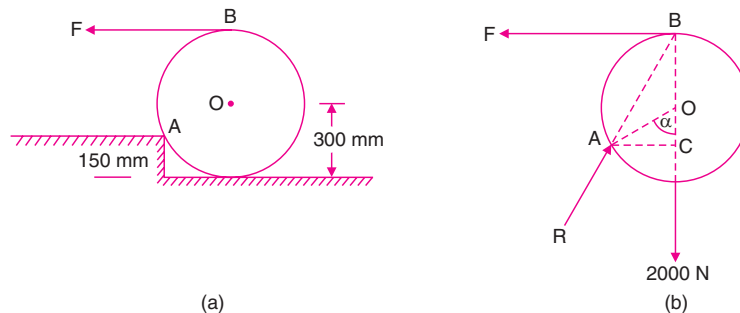

Fig. 2.18
**Example 2.14.** A roller of radius  $r = 300 \text{ mm}$  and weighing  $2000 \text{ N}$  is to be pulled over a curb of height  $150 \text{ mm}$ , as shown in Fig. 2.18 (a) by applying a horizontal force  $F$  applied to the end of a string wound around the circumference of the roller. Find the magnitude of force  $F$  required to start the roller move over the curb. What is the least pull  $F$  through the centre of the wheel to just turn the roller over the curb?
- (iii) Reaction  $R$  from the edge of the curb. Since the body is in equilibrium under the action of only three forces, they must be concurrent. It means the reaction at edge  $A$  of curb passes through the point  $B$  as shown in the Figure 2.18 (b).
Referring to Fig. 2.18 (b),